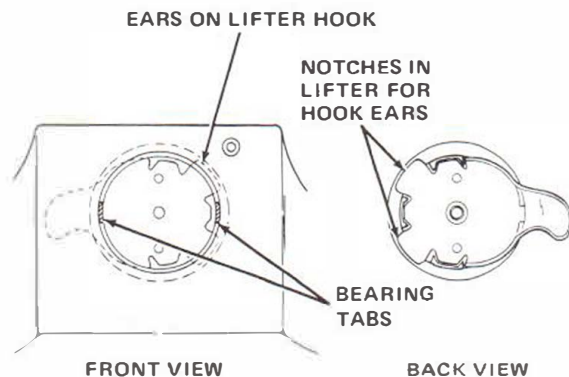

Figure 2-4. Positioning of the belt lifter, hook, and bearing
b. With a screwdriver or fingernail, lift the label (11) at its center to expose belt lifter screw (12). Holding belt lifter hook (13) inside the nozzle, remove the belt lifter screw. As the belt lifter hook and bearing (17) are pulled from belt lifter (14), spring washer (16) and flat washer (15) will fall free.
(1) Place belt lifter hook (13) and bearing (17) into nozzle body (10) from the inside, and hold them in place with your left hand. Position them so the tabs of the bearing are horizontal and the ears of the lifter hook are to your right as you face the front of the nozzle. See figure 2-4.
(3) With lifter screw (12) placed in belt lifter (14), position the lifter with the lifter bar horizontal so the tabs of the bearing (17) fit into the depression in back of the lifter bar. Press the lifter into place, moving it slightly until you feel it slip into place with the ears of the hook fitting into the notches on the right side of the lifter, as shown in figure 2-4.